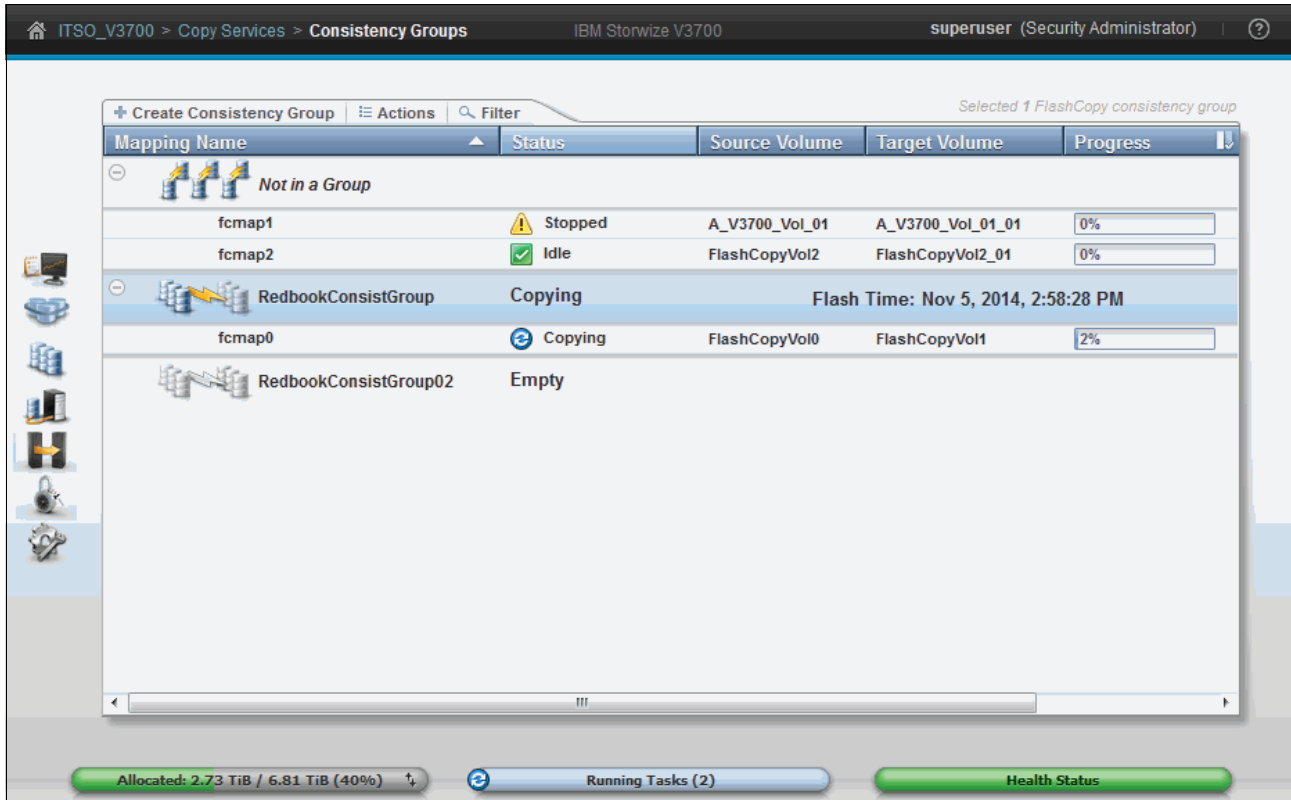

Figure 10-55 New consistency group
3. After the creation process completes, you find a new empty consistency group, as shown in Figure 10-55.